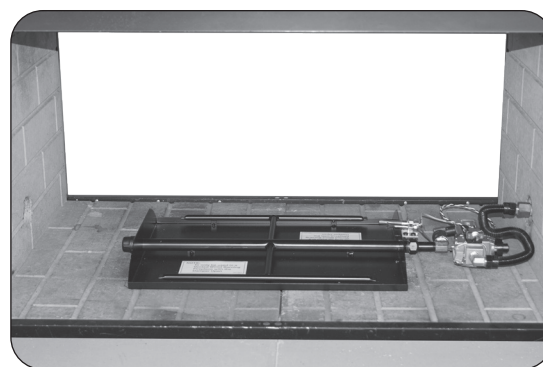

Fig. 16-2 Center burner in fireplace
4. Place the burner system in the fireplace. Center the burner from left to right in the fireplace. See Fig. 16-2.